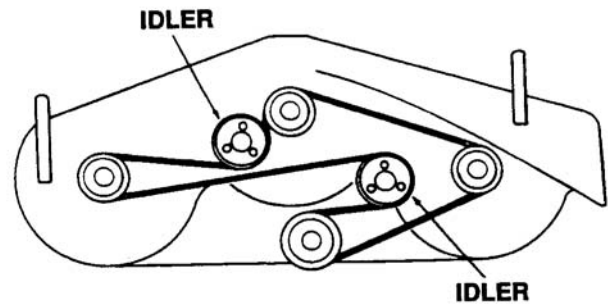

Figure 8-41. Belt Installation
3. Install new belt. See Figure 8-41.